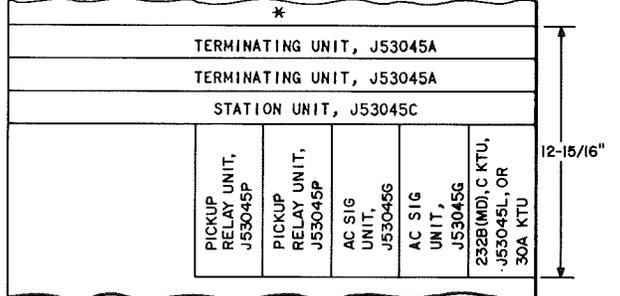

Fig. 5 Typical Equipment Arrangements on Mounting Frames
**3.01** Figure 5 shows typical 4-wire private line arrangements which may be used to estimate space requirements. The arrangements, except for F, do not include provisions for power. The 4-wire private line equipment requires the following voltages: